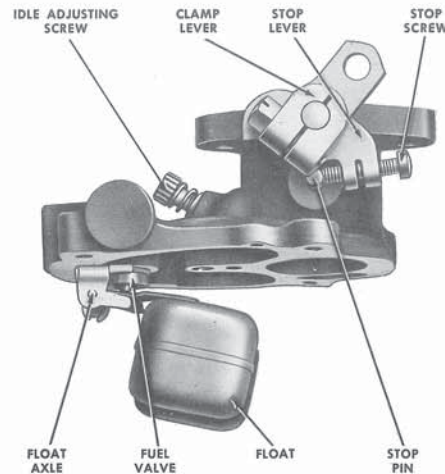
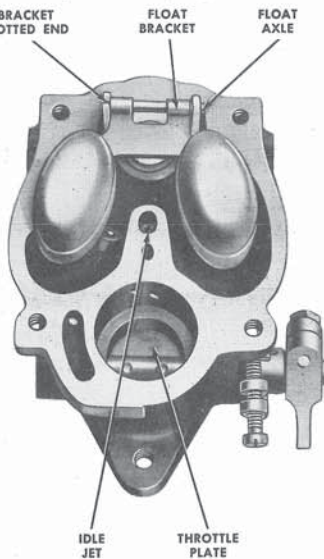

Fig. 31. Throttle Body - Side View
Fig. 30. Throttle Body - Bottom View
**Remove Float and Fuel Valve (Figure 30).** Remove float axle, using a screw driver. First, push axle out slotted end of bracket, then remove axle with fingers. Remove float and fuel valve needle. Unscrew fuel valve seat and gasket.
**Remove Idle Screw and Jet.** Unscrew idle adjusting screw from body and remove spring (Figure 30). The idle jet is located in a passage at center of the machined surface of the throttle body (Figure 31). Remove idle jet with small screw driver.
**Remove Throttle Plate (Figure 30).** Do not remove throttle plate and shaft unless parts are faulty. Remove screws fastening plate, then withdraw plate from shaft and shaft from body. Remove shaft packing retainers, using a screw driver or small pair of pliers.
**Install Idle Screw and Jet.** Install idle jet in passage at center of throttle body machined surface (Figure 30). When installing idle adjusting screw, tighten lightly and carefully, then loosen one turn.
**Install Throttle Plate and Shaft (Figure 31).** Install shaft packing and retainer as an assembly, using a light hammer. If old shaft is used, install shaft with stop lever assembled to shaft. If new shaft is used, assemble shaft and plate to throttle body, then install stop lever. Proceed as follows:
**Install Float and Fuel Valve (Figure 30).** Install fuel valve seat and gasket. Place body-to-bowl gasket on throttle body. Install fuel valve needle and float. Install float axle in solid end of bracket, then tap end of axle to force it into the slotted end of the bracket, using the handle of a screw driver. Test float action to make sure that float moves freely on axle. Adjust float level as described under heading Carburetor Adjustments at beginning of this section.